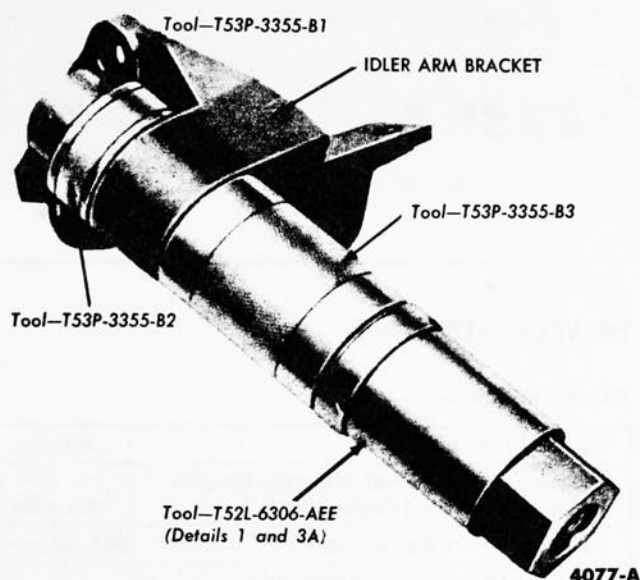

FIG. 22—Idler Arm Bushing Removal
2. Install the idler arm bushing remover as shown in Fig. 22. Make